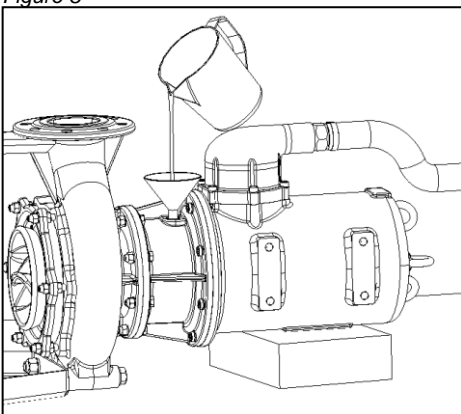

Figure 10
3. Fill in the given quantity and type of oil up to the bottom edge of the tapping (figure 10).